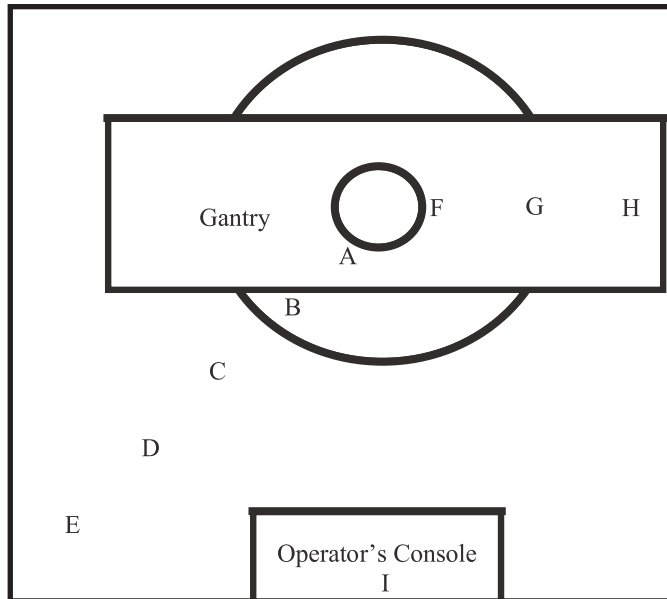

Figure 8.4-1: Measurement locations
- All measurements were taken during a 10 second normal circle scan at the indicated positions (see Figure 8.4-1) and at tabletop level (~4' or ~1.2 m above the floor)